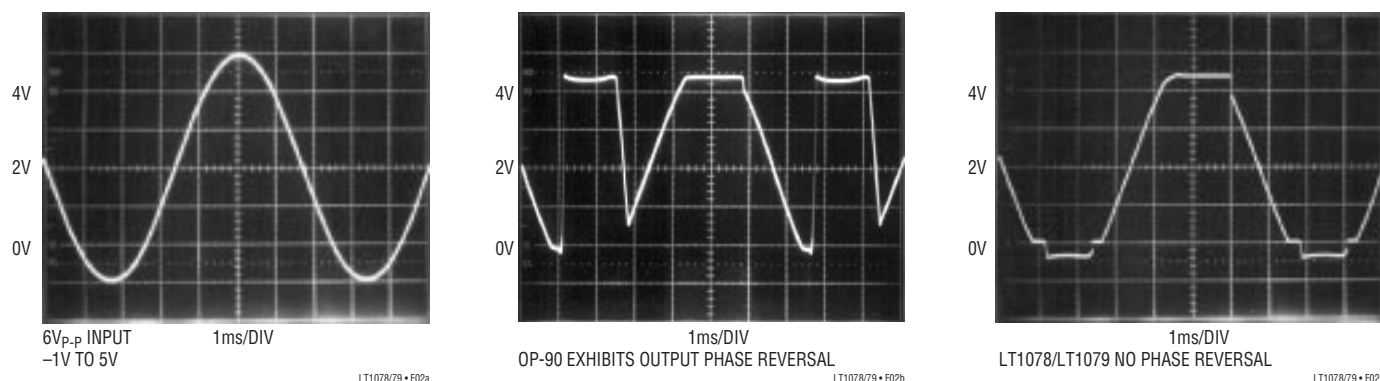

Figure 2. Voltage Follower with Input Exceeding the Negative Common Mode Range ($V_S = 5V$, $0V$)
2. When the input is more than 400mV below ground (at 25°C), the input stage saturates and phase reversal occurs at the output. This can cause lockup in servo systems. Due to a unique phase reversal protection circuitry, the LT1078/LT1079 output does not reverse, as illustrated in Figure 2, even when the inputs are at $-1V$.